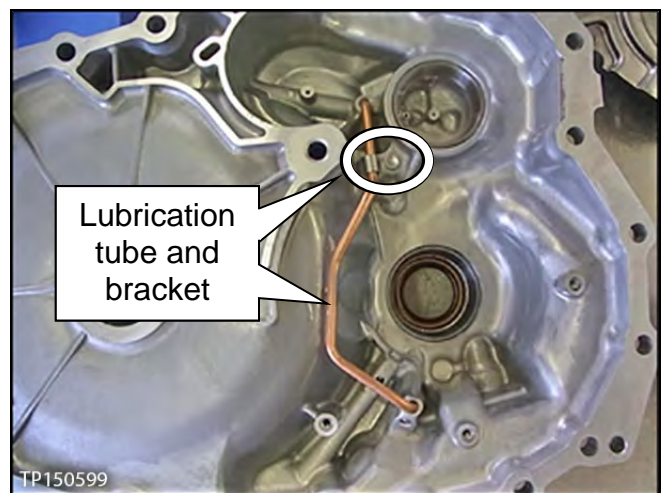

Figure 51
- Install the lubrication tube and bracket (see Figure 51).